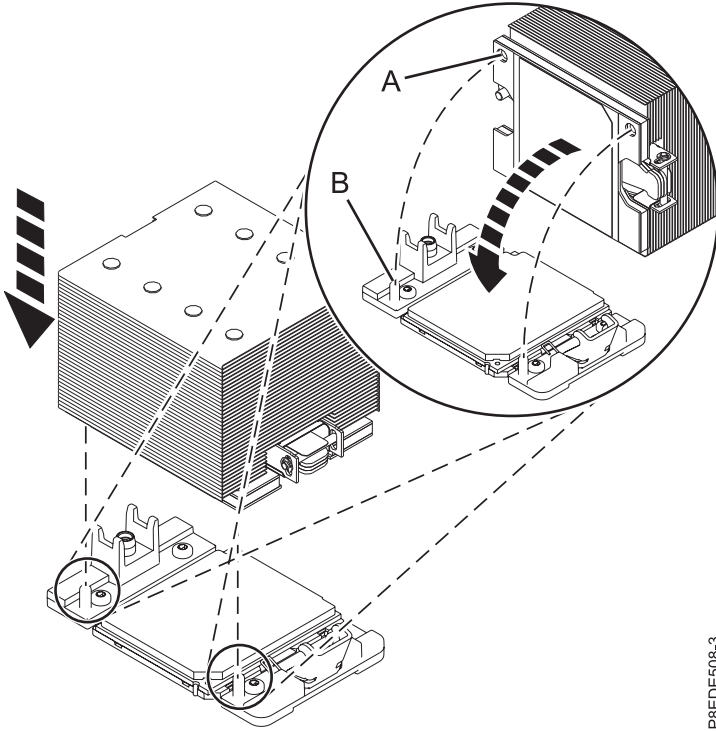

Figure 18. Installing the heat sink
- a. Lower the heat sink over the system processor module, ensuring that the two guide pins **(B)** are inserted into the alignment holes on each side of the tool, as shown in Figure 18 on page 19.